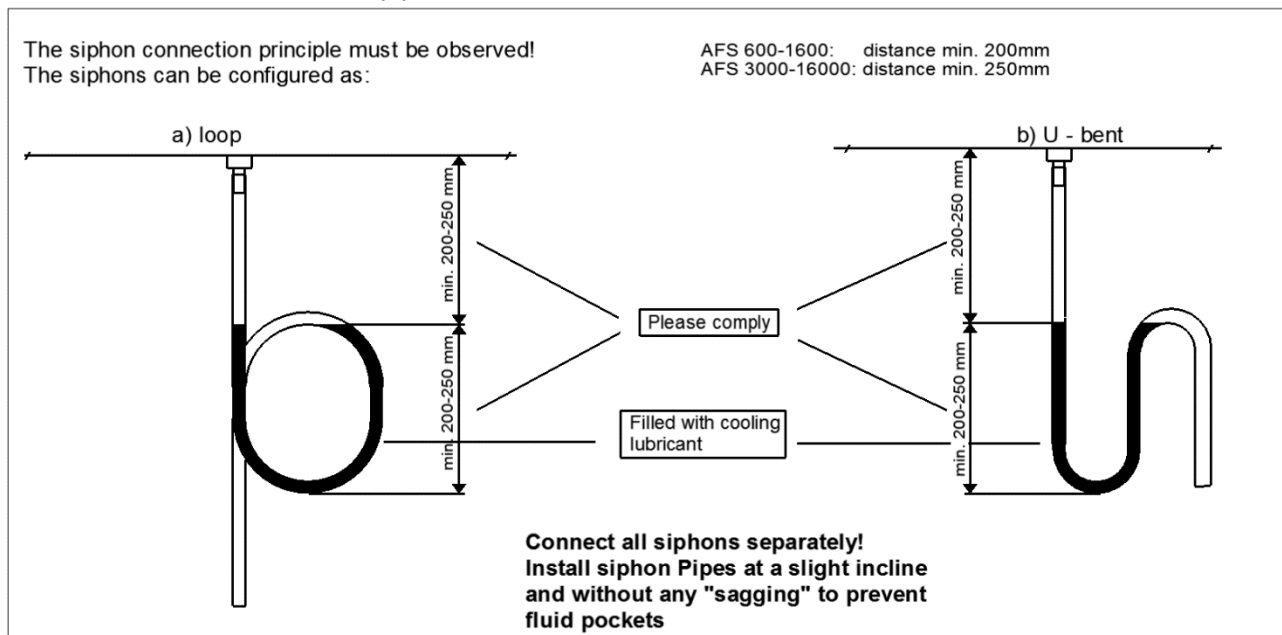

Figure 7: Siphon installation for AFS air purification devices
- Siphon design as a U pipe or loop based on Figure 7